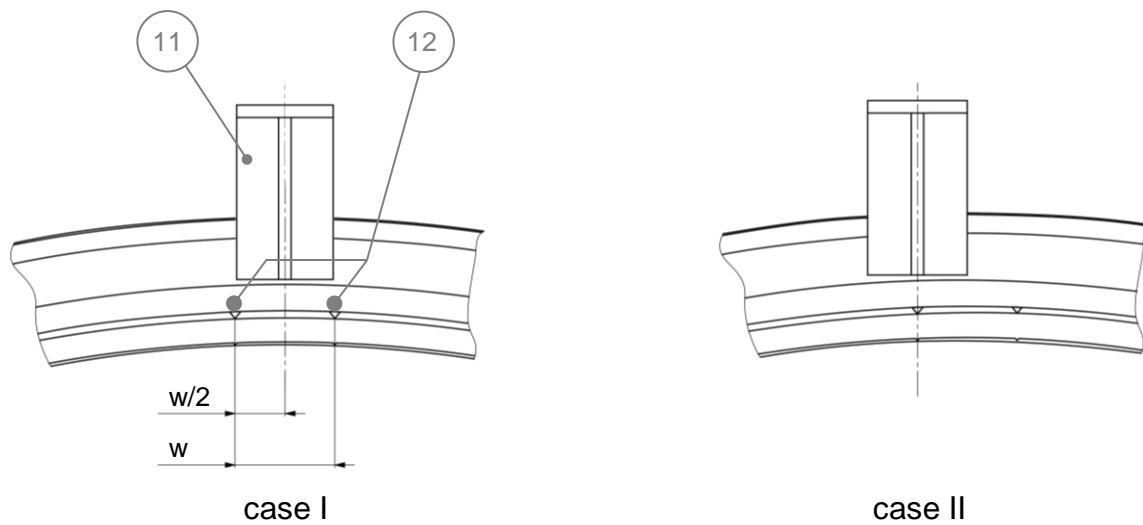

Fig. 8: Wear indicator
Please note that if the coupling is delivered with the hub not finish-bored, the wear markings (item 12) must be set after the hub has been bored, Fig. 8 in section **Fehler! Verweisquelle konnte nicht gefunden werden..**
- The condition of the driving surfaces (item 10) and their contact with the mating surfaces about damage and uniform contact.
- The **wear of the coupling teeth**: The position of the pointer (item 11) between the wear markings (item 12) on the hub indicates the condition of the tooth flank wear, Fig. 8. In new condition (case I) the wear indicator is in the middle. When the wear limit is reached (case II), the entire coupling must be replaced.